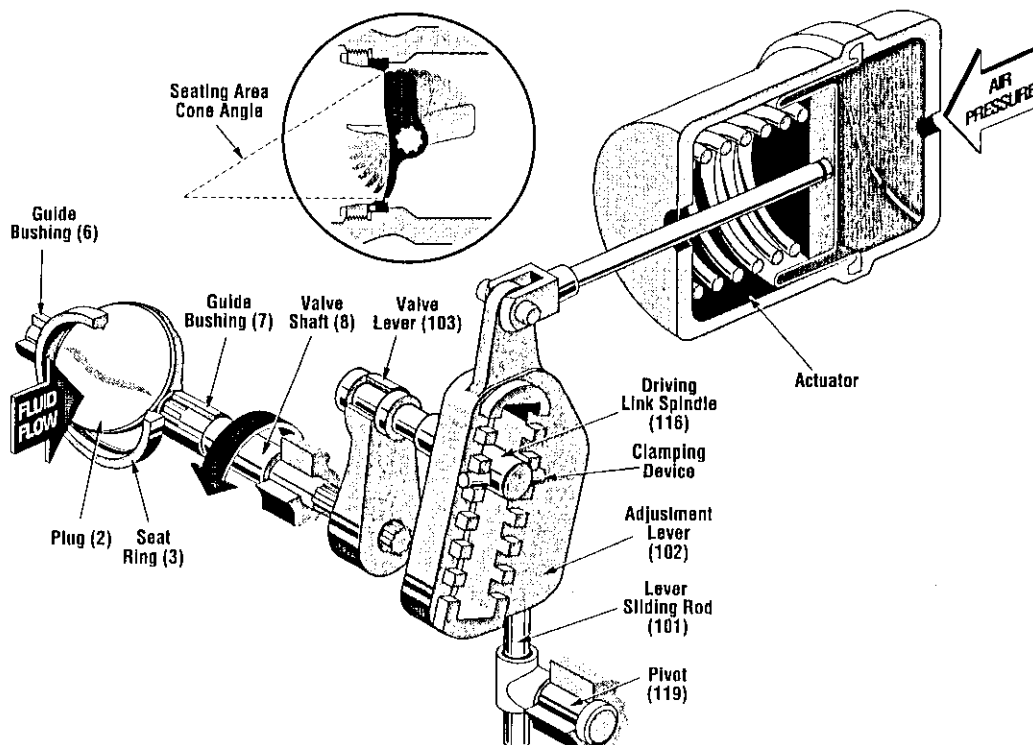

Figure 2: Principle of operation
The main parts of the Varimax valve body subassembly include the guide bushings (6 & 7), the seat ring (3), the shaft (8) and the plug (2). (See Figures 2, 21 & 23).
The position of the linkage point, relative to the rotation axis of adjustment lever, induces the maximum angle of plug rotation. (See Figure 2).
It is recommended that the actuator is mounted with air loading to counter the dynamic torque on the plug. (See Figure 2).